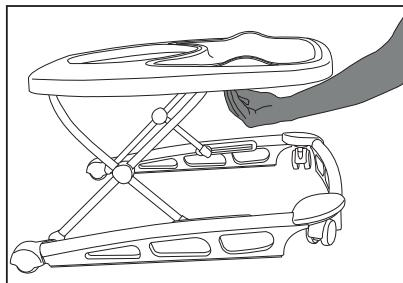

Figure 3.2
- To fold or adjust the walker's height, locate the rectangular button under the front end of the walker. **See Figure 3.2.**